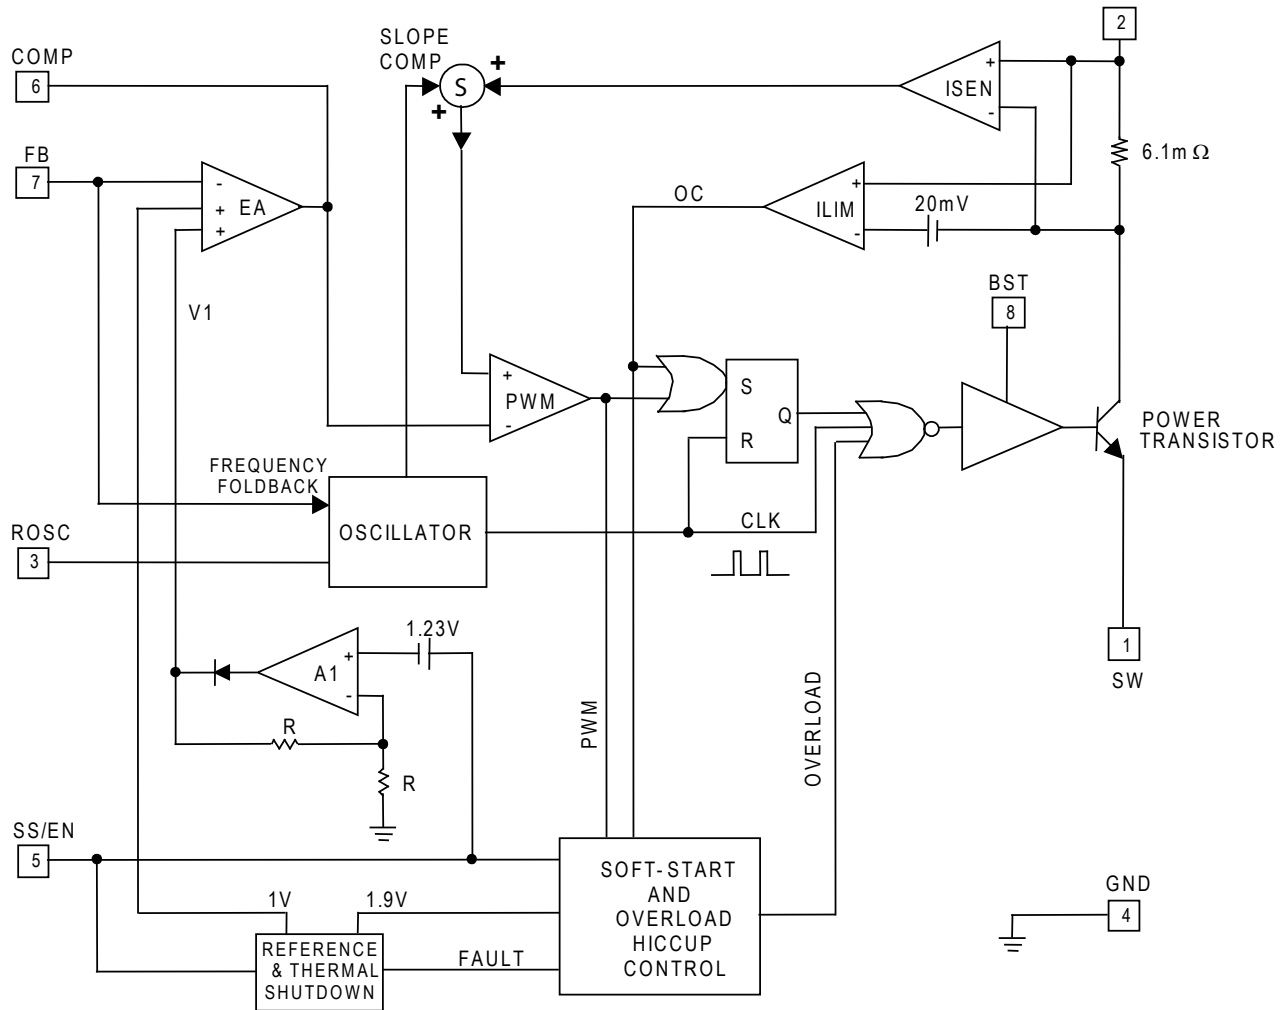

Figure 2. SC4524F Block Diagram
As shown in Figure 2, the switch collector current is sensed with an integrated 5.5mΩ sense resistor. The sensed current is summed with a slope-compensating ramp before it is compared with the transconductance error amplifier (EA) output. The PWM comparator trip point determines the switch turn-on pulse width. The current-limit comparator ILIM turns off the power switch when the sensed signal exceeds the 18mV current-limit threshold.
The error amplifier EA in Figure 2 has two non-inverting inputs. The non-inverting input with the lower voltage predominates. One of the non-inverting inputs is biased to a precision 1V reference and the other non-inverting input is tied to the output of the amplifier A_1 . Amplifier A_1 produces an output $V_1 = 2(V_{SS/EN} - 1.2V)$. V_1 is zero and COMP is forced low when $V_{SS/EN}$ is below 1.2V. During start up, the effective non-inverting input of EA stays at zero until the soft-start capacitor is charged above 1.2V. Once $V_{SS/EN}$ exceeds 1.2V, COMP is released. The regulator starts to switch when V_{COMP} rises above 0.4V. If the soft-start interval is made sufficiently long, then the FB voltage (hence the output voltage) will track V_1 during start up. $V_{SS/EN}$ must be at least 1.83V for the output to achieve regulation. Proper soft-start prevents output overshoot. Current drawn from the input supply is also well controlled.
As summarized in Table 1, overload shutdown is disabled during soft-start ($V_{SS/EN}<2.15V$). In Figure 3, the reset input of the overload latch B_2 will remain high if the SS/EN voltage is below 2.15V. Once the soft-start capacitor is charged above 2.15V, the output of the Schmitt trigger B_1 goes high, the reset input of B_2 goes low and hiccup becomes armed. As the load draws more current from the regulator, the current-limit comparator ILIM (Figure 2) will eventually limit the switch current on a cycle-by-
The PWM latch in Figure 2 is reset every cycle by the clock. The clock also turns off the power transistor to refresh the bootstrap capacitor. This minimum off time limits the attainable duty cycle of the regulator at a given switching frequency. The measured minimum off time is 138ns typically. If the required duty cycle is higher than the attainable maximum, then the output voltage will not be able to reach its set value in continuous-conduction mode.